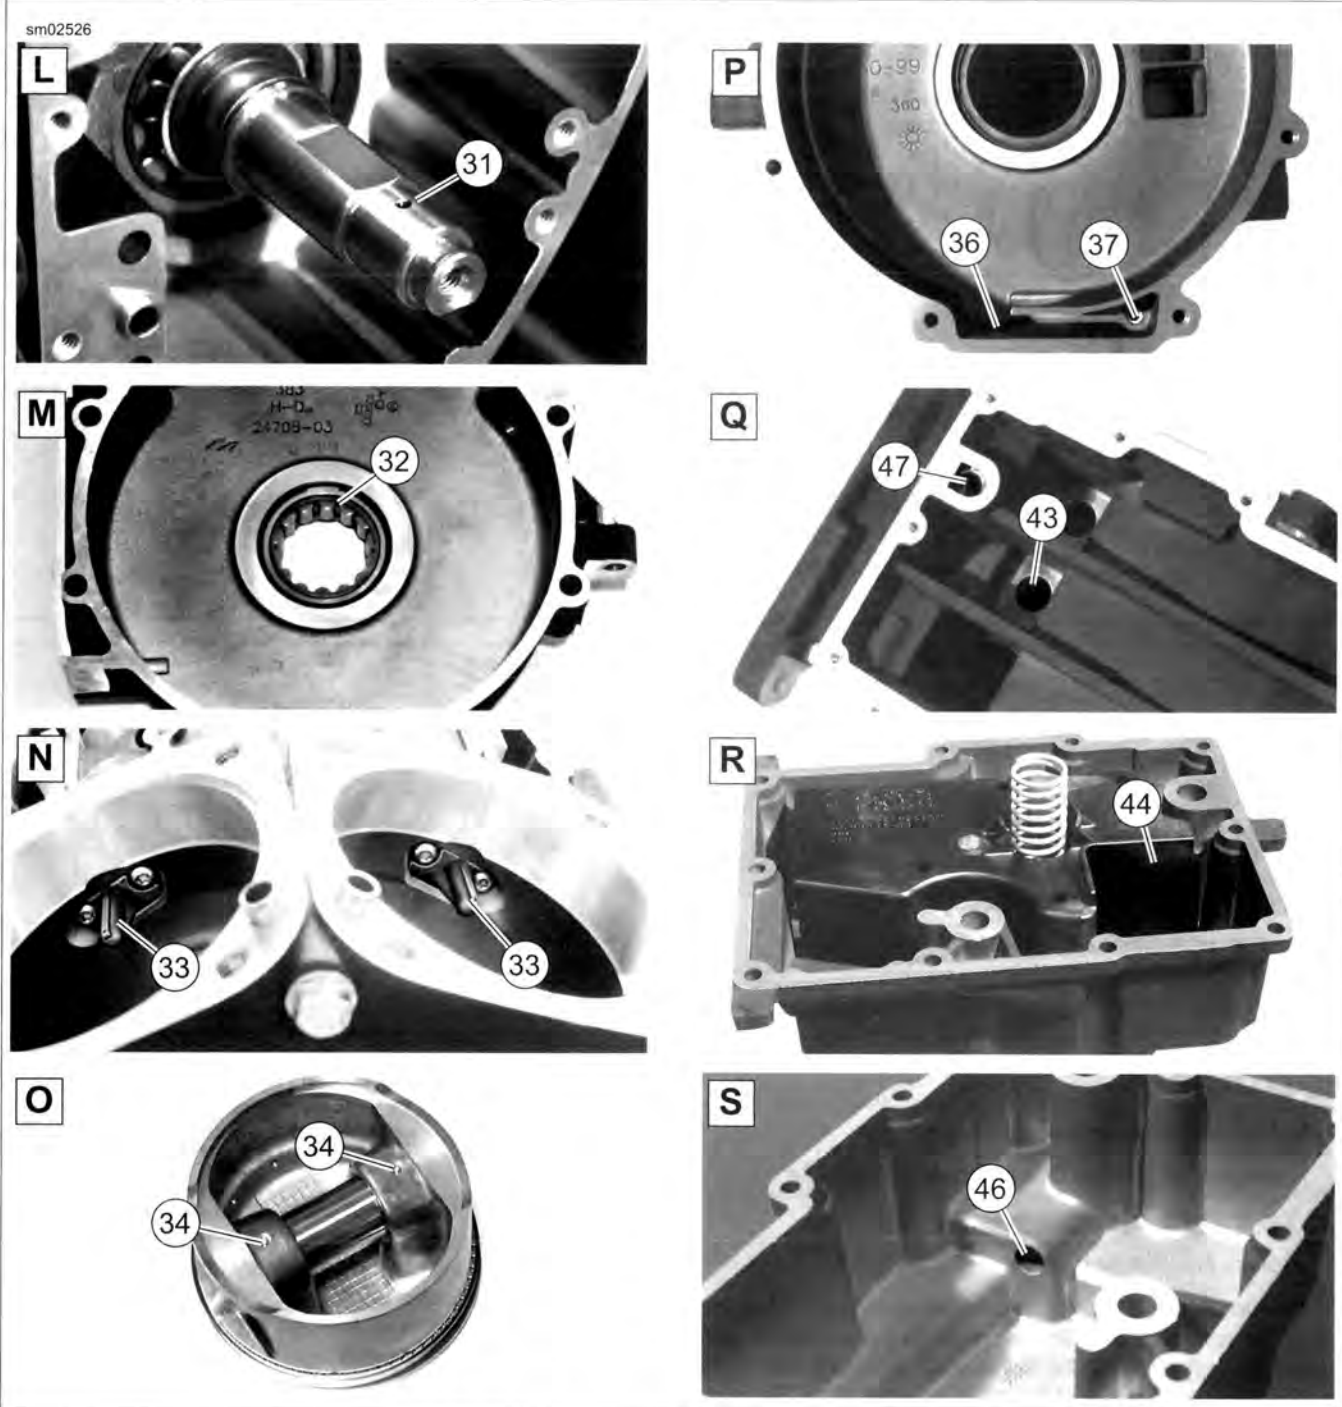

Figure 3-3. Engine Oil Flow-Bottom End
- Bottom end oil flow is shown in Figure 3-3.